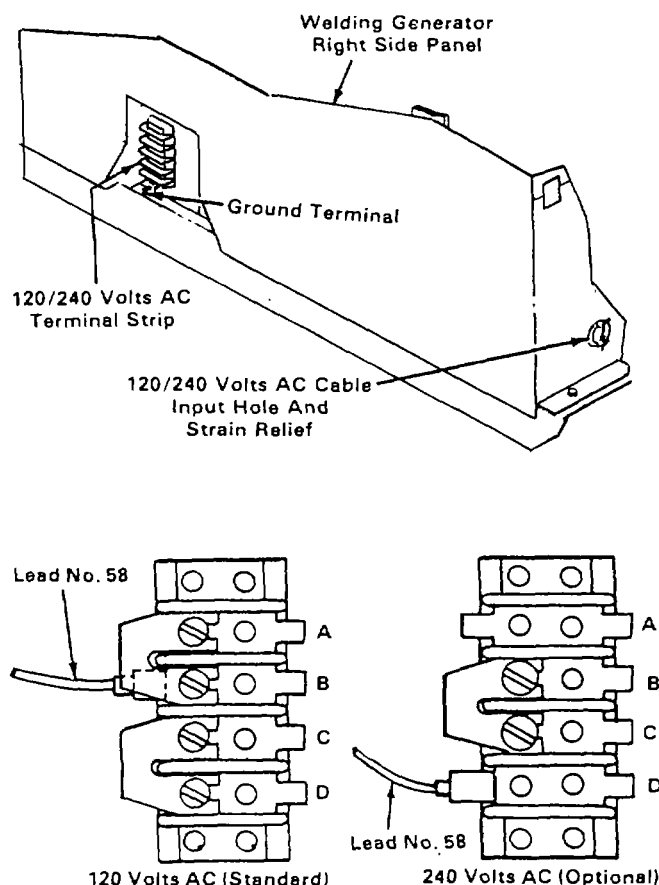

Figure 2-33. 120/240 Volts AC Terminal Strip
- (a) Make connections to 120 volt, 30 amp ac receptacle. If a connection to 120/240 vac terminal strip is desired, follow steps (b) through (d); otherwise, skip to step (e). See Figure 2-33.
- (b) Make connections to 120/240 vac terminal strip. See Figure 2-33.
- (d) Insert leads through strain relief on the generator rear panel. Take leads over to terminal strip. See Figure 2-33.
- (e) To obtain 120 vac auxiliary power, see Figure 2-33 and proceed as follows:
- (f) To obtain 240 vac auxiliary power, see Figure 2-33 and proceed as follows:
- (g) To obtain 120/240 vac auxiliary power, see Figure 2-33 and proceed as follows: